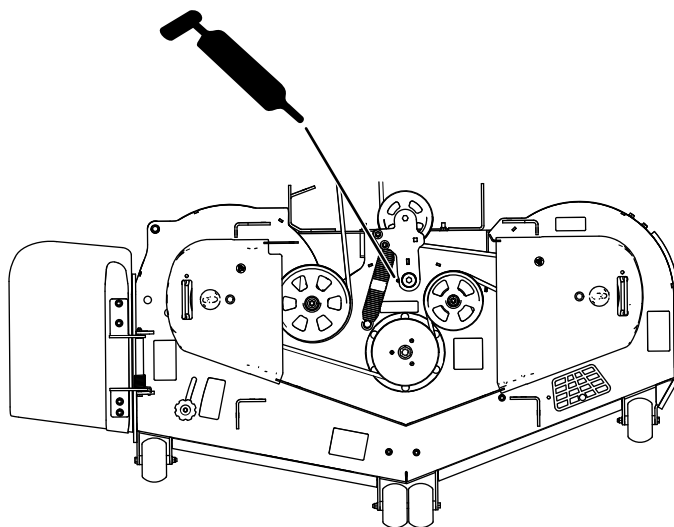

Figure 44
3. Grease the mower deck idler-pulley pivot until grease comes out the bottom (Figure 44).